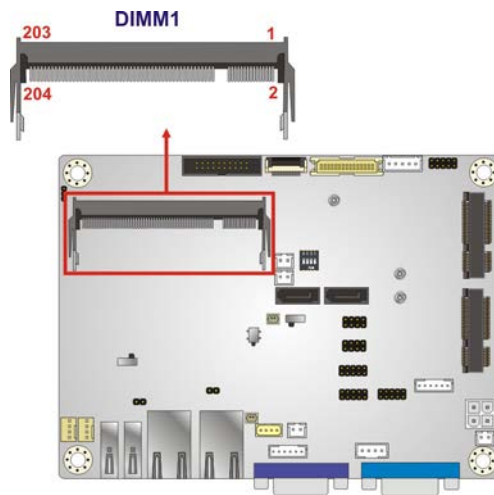

Figure 3-7: DDR3L SO-DIMM Slot Location
- CN Location:** See **Figure 3-7**